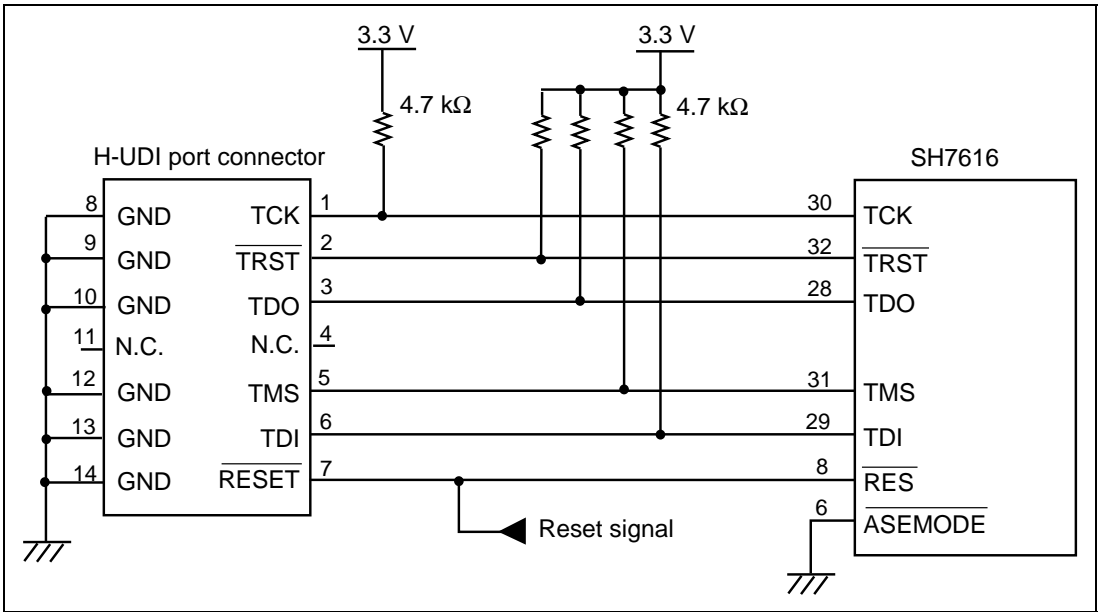

Figure 1.2 Recommended Circuit for Connection between the H-UDI Port Connector and MPU
Figure 1.2 shows a recommended circuit between the H-UDI port connector and the MPU.
- (1) When the emulator is used: /ASEMODE = low (ASE mode)
- (2) When the emulator is not used: /ASEMODE = high (normal mode)
6. The resistance values shown in figure 1.2 are recommended.